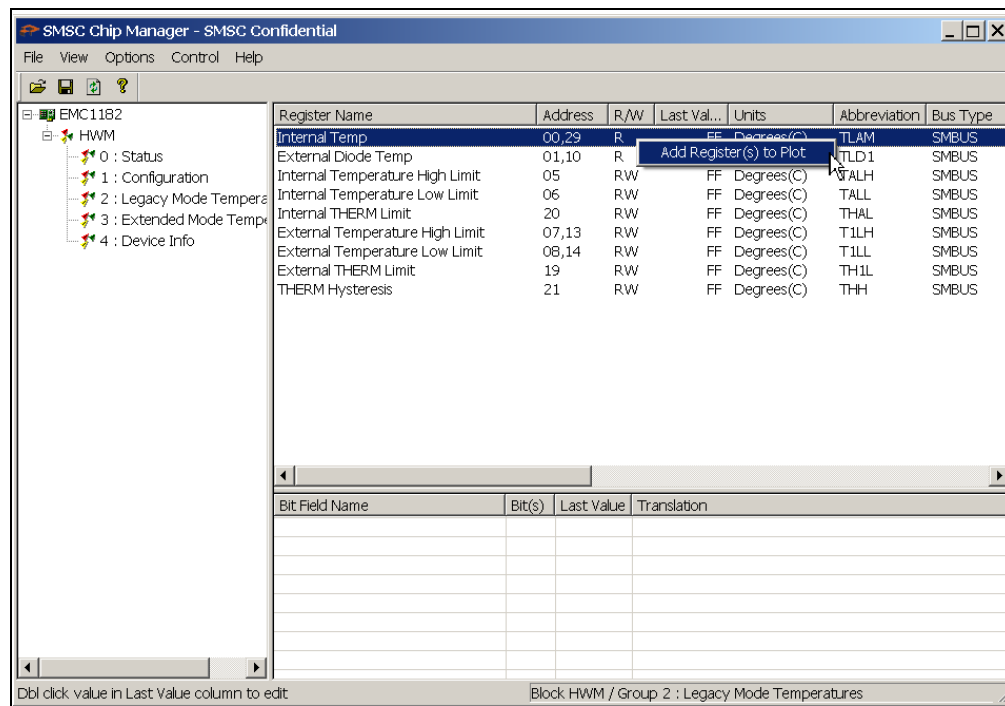

FIGURE 4-2: Adding Registers to Plot.
1. To plot a register, right-click the desired register name or value. Select the “Add Register(s) to Plot” from the context menu (see Figure 4-2), to add the register or value to the plot list.